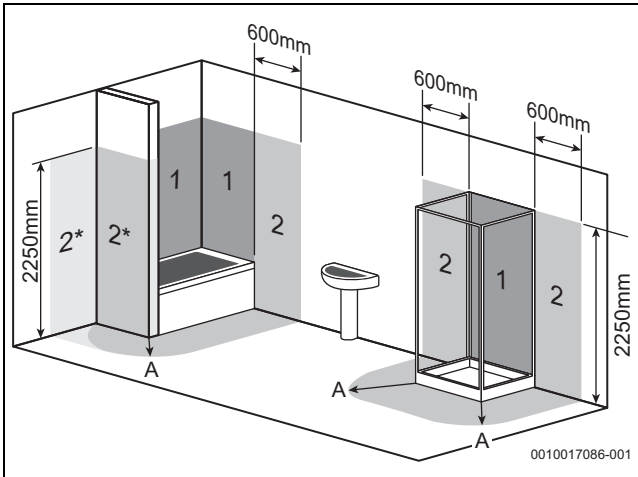

Fig. 13 Bathroom installations
- Figure 13 is for guidance only.